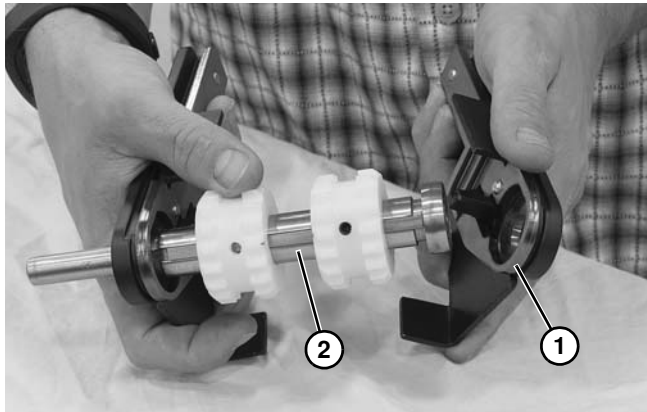

Figure 45
6. Remove headplate (**Figure 45, item 1**) and spindle (**Figure 45, item 2**).